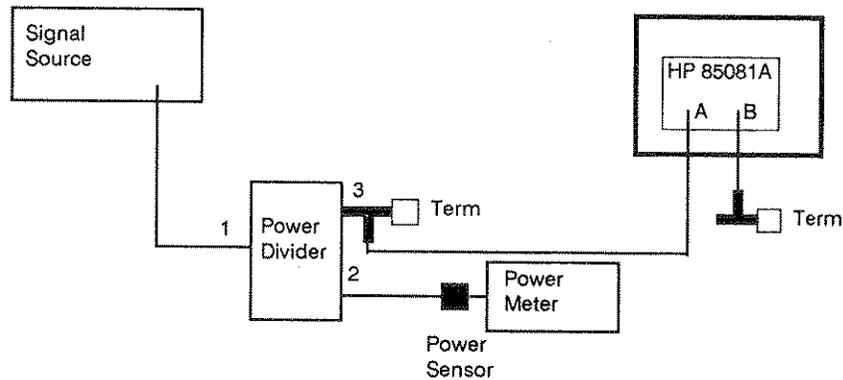

Figure 5-2. SRD Bias Adjust Setup
1. Configure the equipment as shown in Figure 5-2.